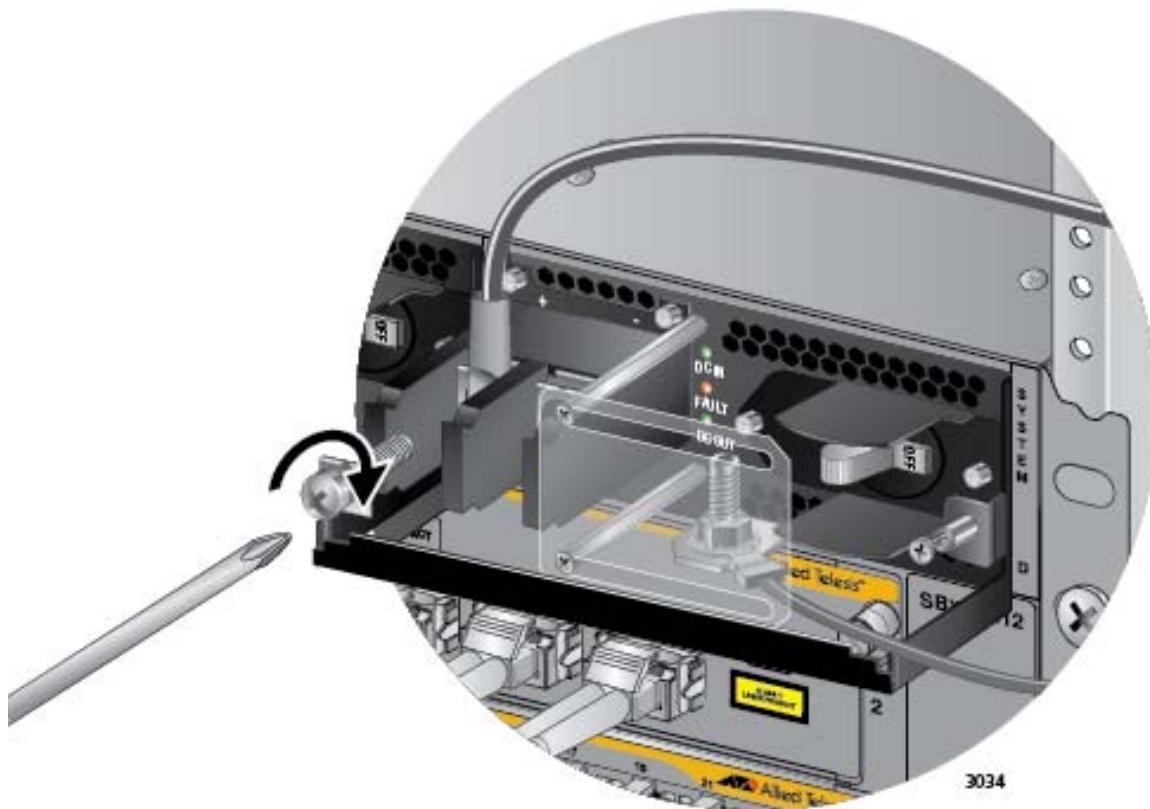

Figure 114. Connecting the Positive (+) Power Wire with a Straight Terminal
6. With a #3 Phillips-head screwdriver, connect the positive (+) power lead wire to the positive terminal on the power supply, with one of the terminal screws removed in the previous step. The positive terminal is on the left. You may attach the terminals with the wires either above or below the terminal block. Figure 114 on page 161 shows the positive wire above the terminal block.